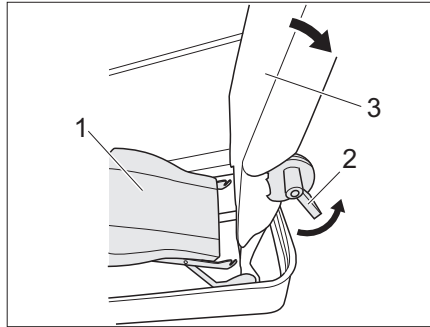
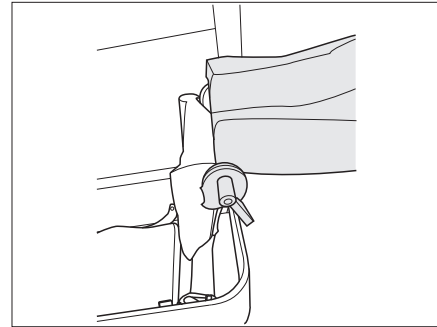

Fig. 211 Unhook the seat
Fig. 212 Turn seat back 90° to the rear
- Unlock (Fig. 211,1) the seat and move it downwards.
- Engage lever 1 (Fig. 211,2) and turn the seat back (Fig. 211,3) 90° towards the rear (Fig. 212).